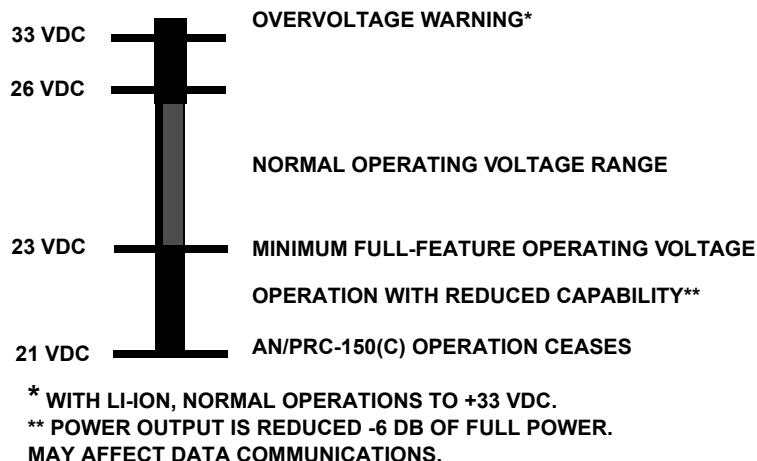

Figure 2-4. MP Voltage Operating Range
- f. See Figure 2-4 for proper battery voltages on the MP.